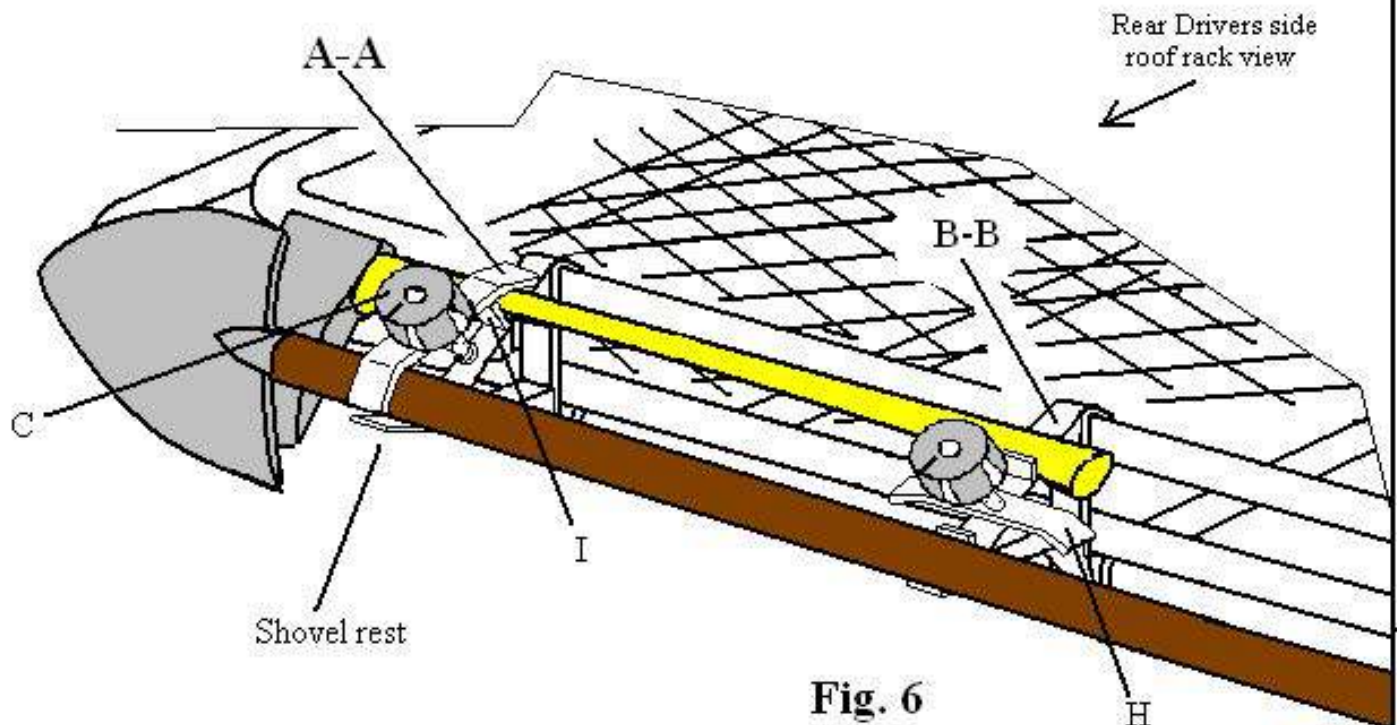

Fig. 6
- 2- Loosen both locking knobs "C" to the top end of the threaded studs and swing each pinch clamp "H" sideways as shown in Fig. 6 page 6 bracket "B-B".
- A) Loosen both locking knobs "C" and swing pinch clamps "H" sideways as shown in Fig 6 page 6.
- B) Place the Axe onto the Axe resting plates "T" with the Axe head towards the end of the roof rack or bracket "A-A" as shown in Fig 6 page 6 and hold with one hand at this time.
- C) Place the Shovel onto the lower shovel rests as shown in Fig 6 page 6 with the spade end of the shovel towards bracket "A-A" or the end of the roof rack covering the Axe head. With one hand holding both tools in place turn one of the pinch clamps "H" over the Axe and Shovel handles and clamp down using the locking knob "C". When one side is held in place continue to the other pinch clamp turn pinch clamp "H" vertical so that the clamp also covers the tool handles and clamp down using the locking knobs as shown in Fig 6 page 6.